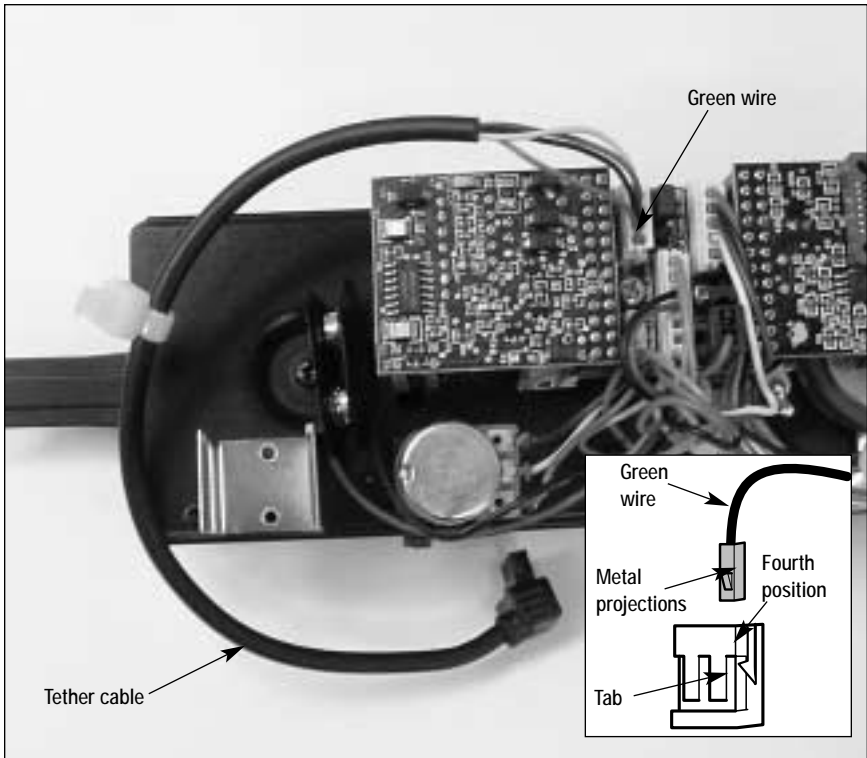

Figure 4. Four-pin connector
- **Steam locomotives only.** Follow the black tether cable (which plugs into the locomotive) back to the end of the black insulation. See Figure 4 on page 6. If all four wires (yellow, red, black, and green) are plugged into a white connector, the upgrade is complete, and no further action is required. If the green wire is “loose” at the end of the black insulation, refer to the section entitled “Connecting the green tether wire” on page 6.
If the green wire at the end of the tender's tether cable is "loose" at the end of the black insulation (as described in the previous section), follow these steps to attach the wire and complete the upgrade. Refer to Figure 4.